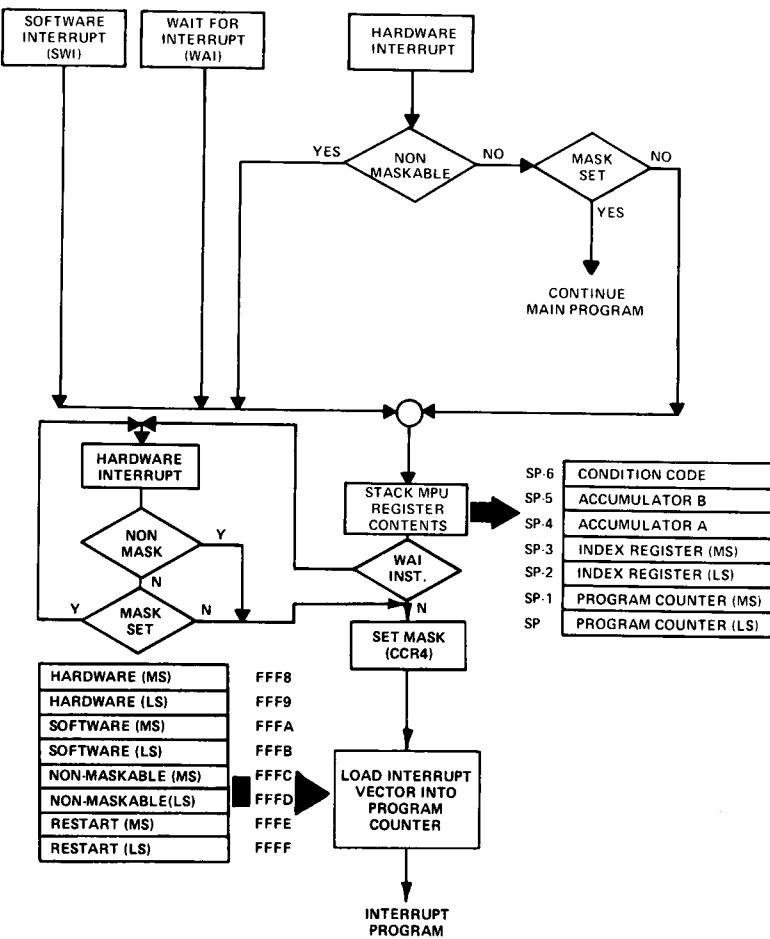

Fig. 9.6 Interrupt flow chart
2. *HALT (Pin 2)* When the input on this pin is in the high state ("1"), the MPU will fetch and execute instructions. When the HALT line goes low, the MPU will finish execution of the instruction it is processing before halting. When the MPU is in the halt mode, the Bus Available (BA) line will be high, the Valid Memory Address (VMA) line will be low, and the Read-/Write (R/W) line, the address bus, and the data bus will be in the high-impedance state. If an interrupt (IRQ or NMI) should occur while the MPU is in the halt state, it will be latched into the MPU until the latter is taken out of the halt mode, at which time it will service the interrupt. The HALT line permits an external source to control program execution by executing one instruction at a time. This capability is particularly useful during program debugging. During normal operation of a system, this pin would be tied to +5 V.
4. *Interrupt Request Line (IRQ) (Pin 4)* When the \overline{IRQ} line from the PIAs (or some other external device) goes low, the MPU will complete the instruction it is executing and then go into an interrupt sequence, providing the interrupt mask has not been previously set to inhibit interrupts. During the first step in this sequence, the contents of the index register, the program counter, the A and B accumulators, and the condition code register will be stored on the stack (in RAM) for later use. Next, the I bit in the condition code register will be set to a "1" so that no further interrupts may occur. The MPU will now load the contents of the highest ROM address minus 6 and the contents of the highest ROM address minus 7 into the program counter. This vectoring address will occur when the MPU puts the addresses FFF8 and FFF9 on the address bus. The contents of these locations contain the address of the program that is to service the interrupt by prescribing the action the MPU is to take because of the interrupt. At some point in the servicing program, an RTI instruction will be encountered that will cause the MPU and its internal registers to be restored to the condition they were in before the interrupt. See Fig. 9.6 for a detailed flowchart of the interrupt sequence.
6. *Nonmaskable Interrupt (NMI) (Pin 6)* This input pin is similar to the IRQ input, except that the interrupt is *nonmaskable*. As with the IRQ, the MPU will complete the instruction being executed before it recognizes the NMI interrupt. After the contents of the program counter, index register, A and B accumulators, and the condition code register have been stored on the stack (RAM) for later use, the I bit will be set to a "1". The contents of ROM locations FFFC and FFFD will next be loaded into the program counter. These locations contain the address of the program that services the nonmaskable interrupt. Again, when the MPU comes to an RTI instruction in the servicing program, it, along with its registers, will be restored to the condition it was in before the nonmaskable interrupt. See Fig. 9.6 for a detailed flowchart of the interrupt sequence.